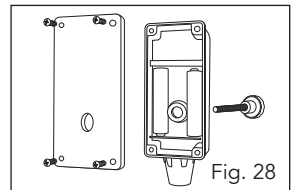

Fig. 28
1. Unscrew the 4 screws and remove the base plate. Take out the old batteries and replace with new ones. Screw the base plate back on (Fig. 28).